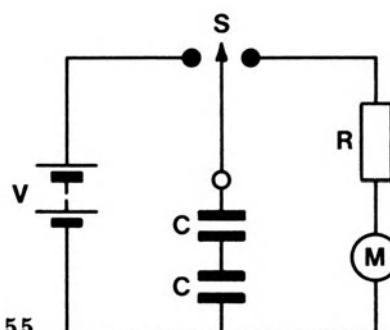

FIG. 3.55
3. connecting a second capacitor, identical to C, in series with C as in Fig. 3.55 would increase the deflection of M.